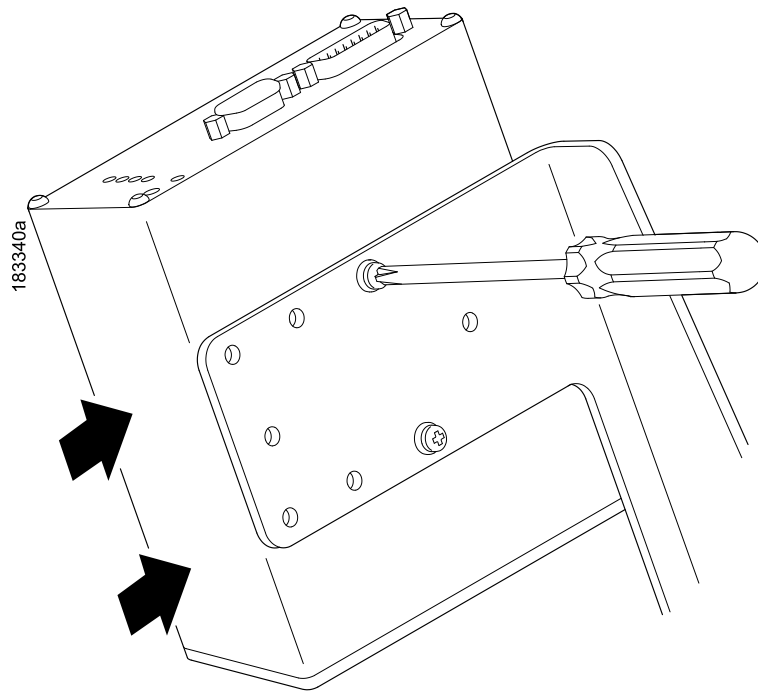

Figure 19 Positioning the Validator on the Bracket (T8)
1. Apply even pressure to the side of the validator as you tighten the screws on the bracket as shown in Figure 19.